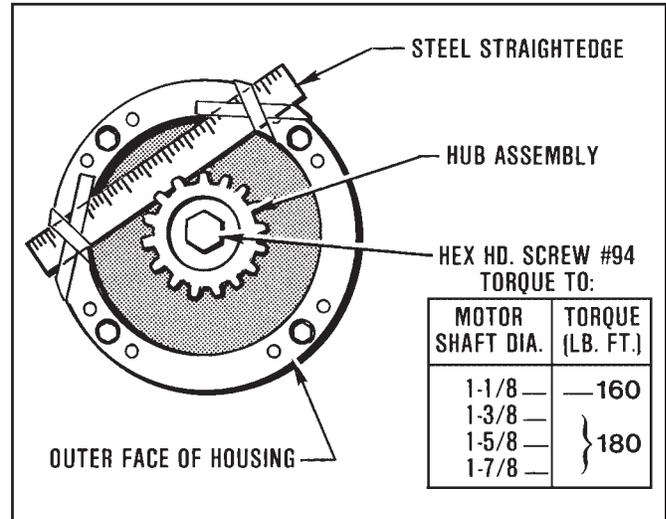

Figure 3.2
1. Tape a steel straightedge to the outer face of the housing as shown in *Figure 3.2*.
3. After the Hub has been properly positioned, tightened the Hex Hd Cap Screw (#94) to specified torque. (*See Figure 3.2*).